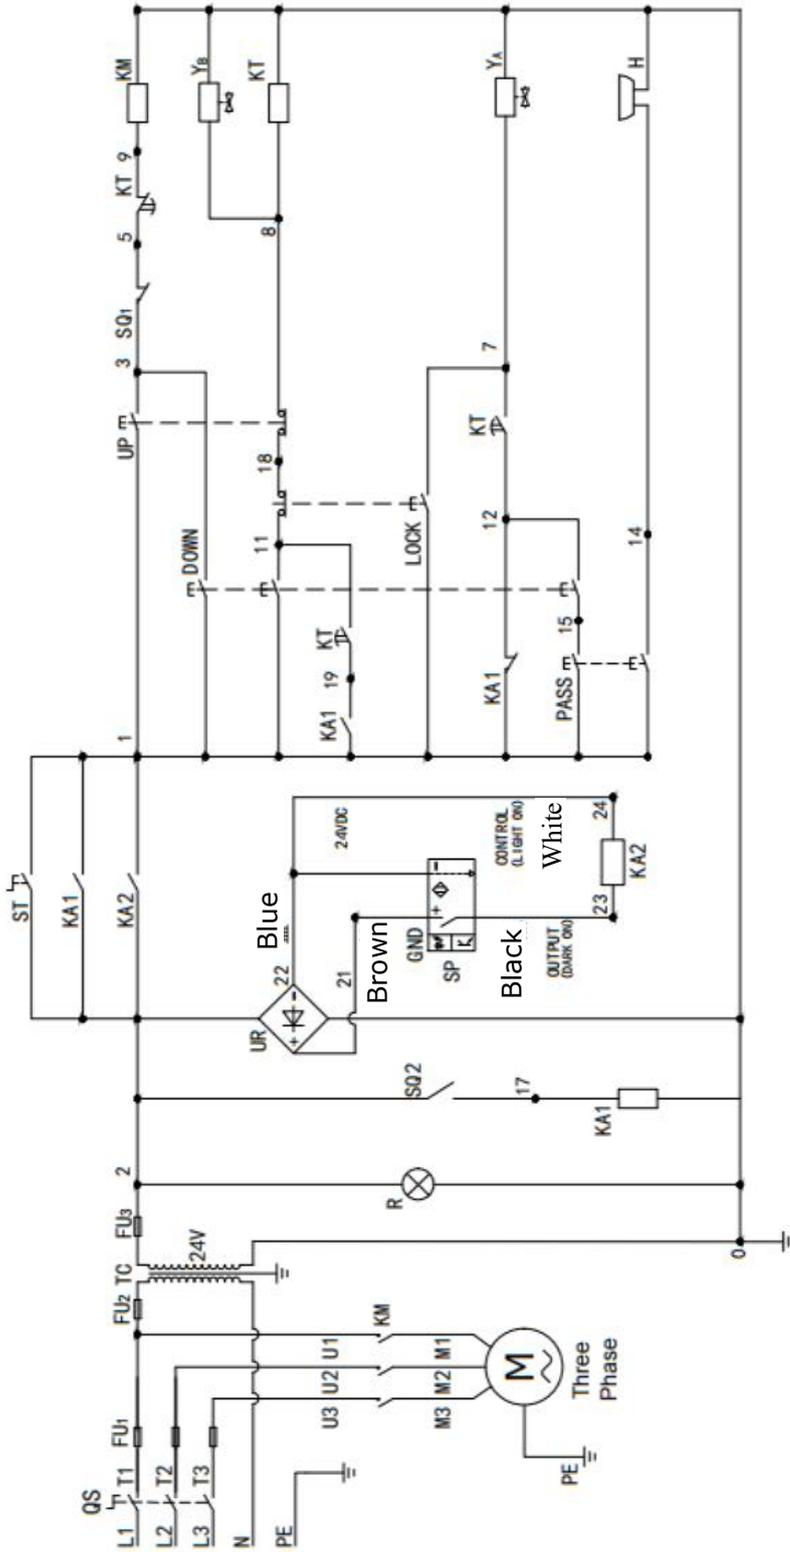

Fig. 12
1.2 3 phase power unit Circuit Diagram (See Fig. 12)